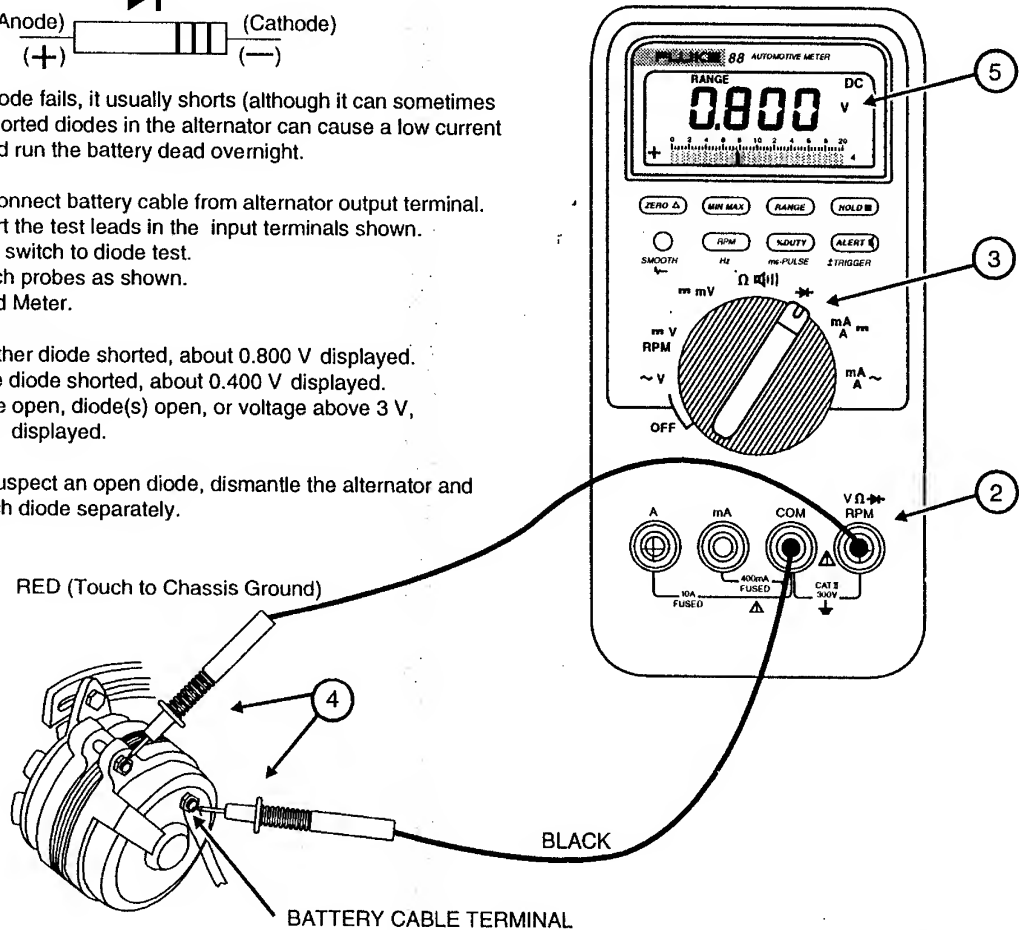

Figure 7. Testing Diodes on Alternator
3. Touch the red probe to the positive side of the diode and the black probe to the negative (see Figure 7). Read the display.
Figure 7 shows how to check two diodes in series in an alternator.
*The procedure in Figure 7 is not valid for avalanche diodes found in many late model GM cars.*